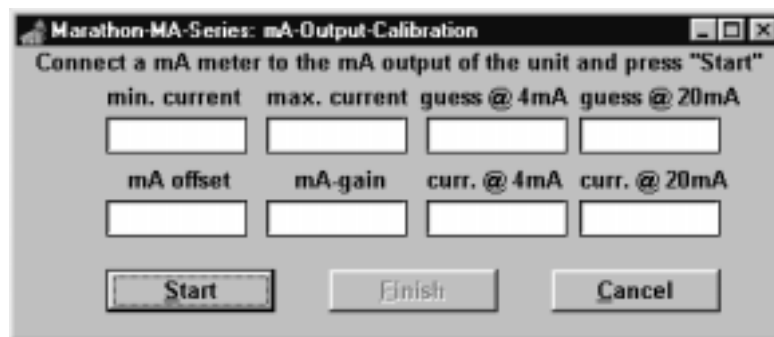

Figure D-5: The mA Output Calibration Screen
2. The mA-Output Calibration screen displays (Figure D-5). Follow the directions.